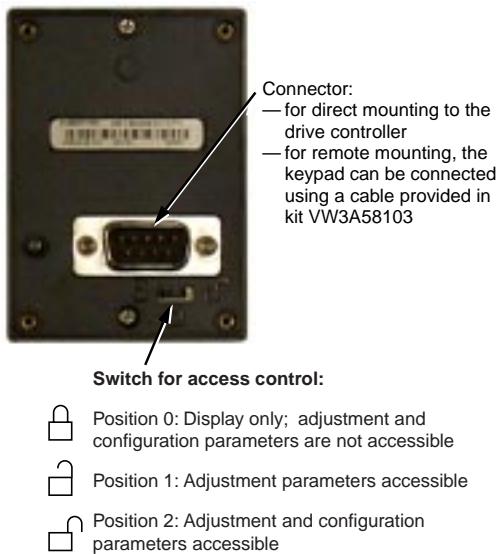

Figure 2: Rear of the Operator Terminal
- PROG This appears when the access control switch (located on the rear of the unit, see Figure 2) is in position 1 or position 2. See "Access Control" below for more information.
On the rear of the operator terminal is a three-position access control switch and a connector (see Figure 2). The switch setting can deter unwanted tampering with adjustment and/or configuration parameters. PROG is displayed in the upper right-hand corner of the display when the switch is in position 1 (configuration) or position 2 (file storage and transfer). Access can also be controlled by using an access code.